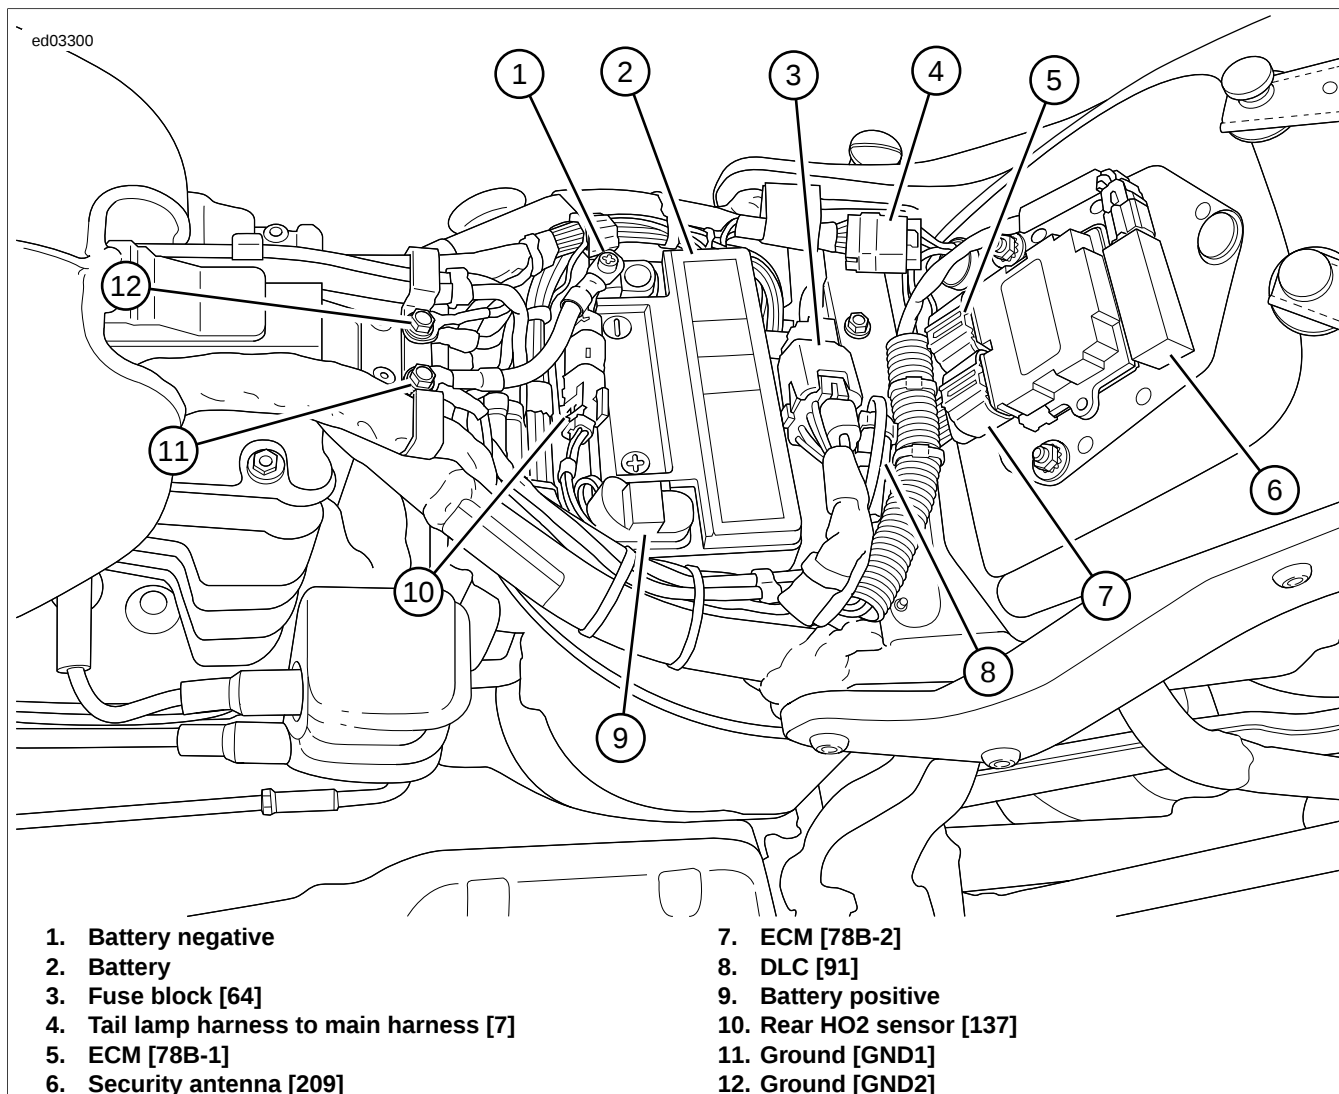

Figure 5-42. Under Seat: Except FXS/B and FLS
- See Figure 5-42. Verify that antenna is in OE location. Make sure that seat has not been replaced with a metal base seat.